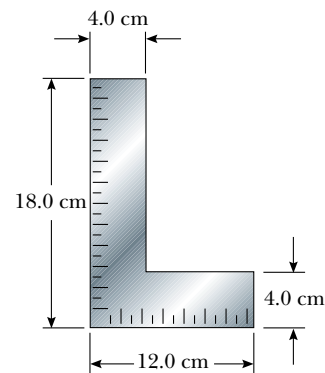

Figure P12.5
5. A carpenter's square has the shape of an L, as in Figure P12.5. Locate its center of gravity.